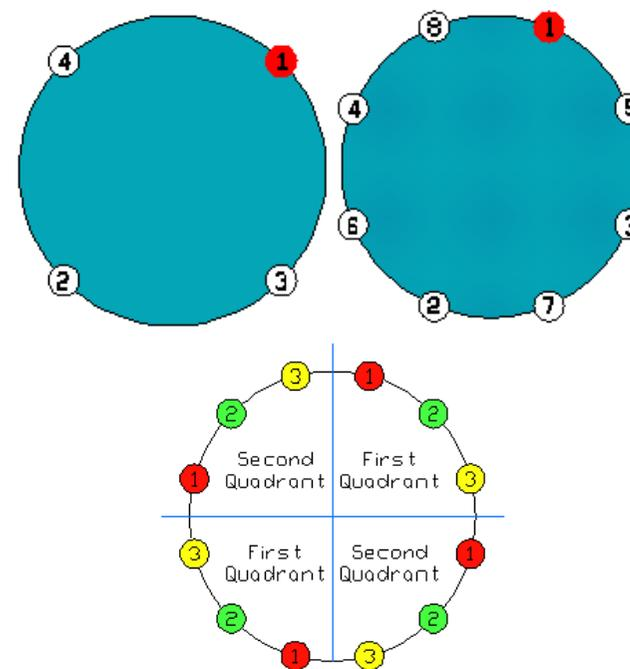

Figure F2 – Bolt Tightening Sequence 4, 8 and 12 Bolts or More
- Make a sufficient number of circuits to be sure that the bolt torques are achieved as shown in Figure F2 and Table F1.
- Acceptable tightening sequences are shown in Figure F2.